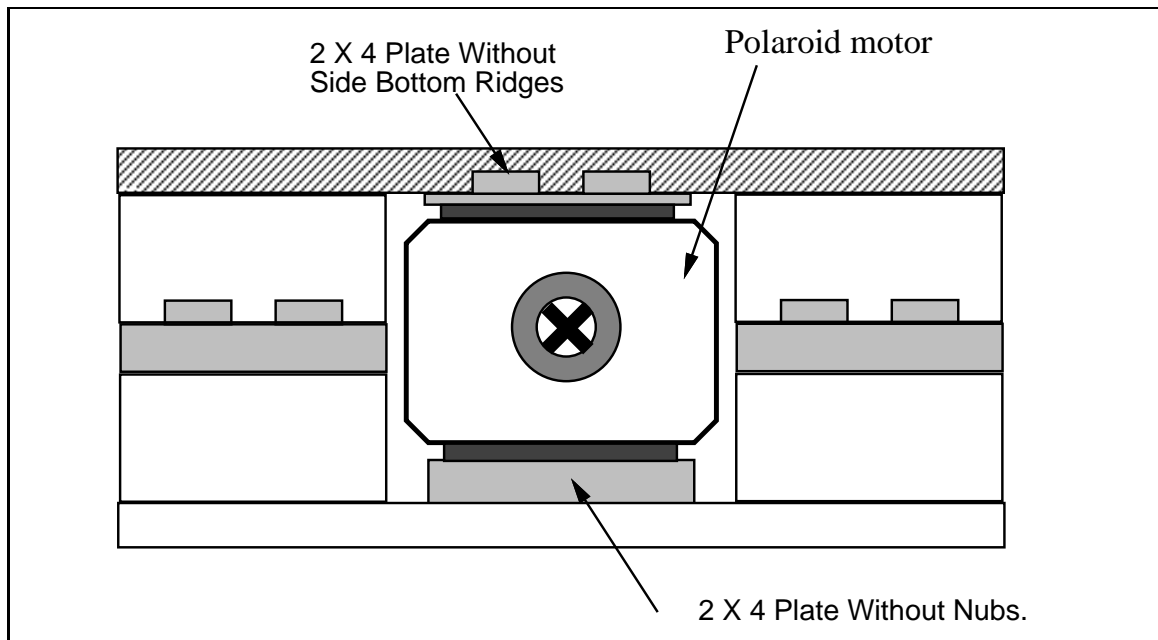

Figure 4.22: LEGO Jig for Mounting Polaroid Motor
- Make a second jig as shown in Figure 4.22 out of four  $2 \times 4$  bricks, two  $2 \times 4$  plates, and two  $6 \times 8$  plates that sandwich the motor in place.